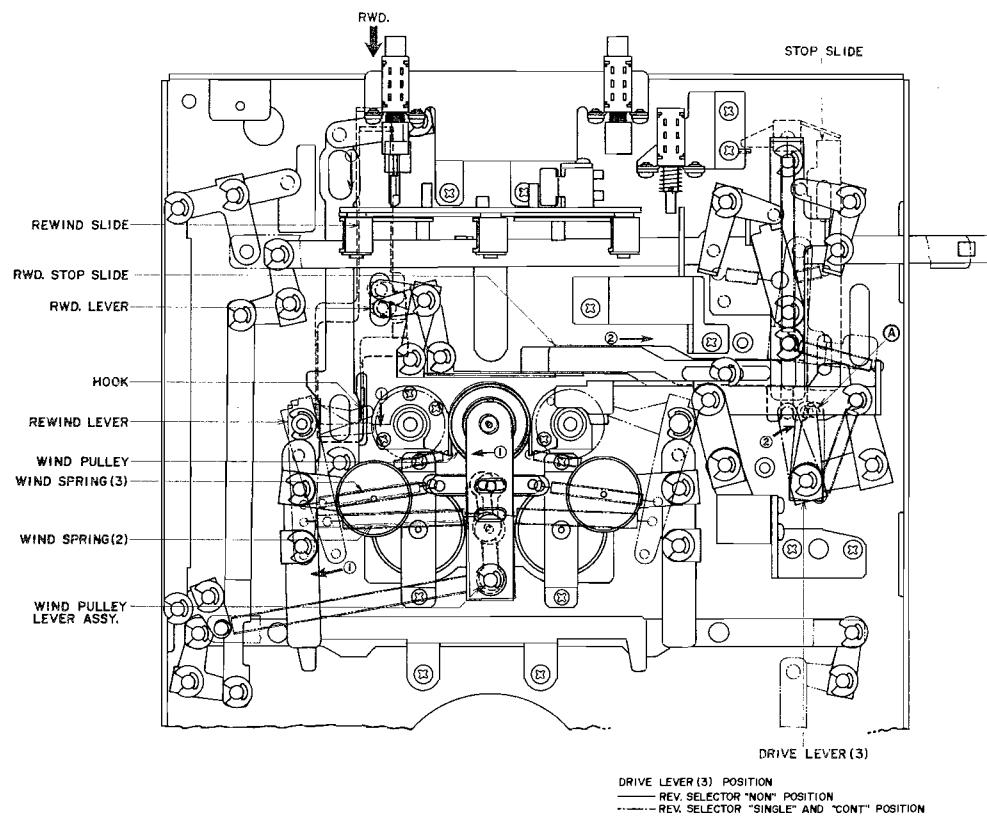

Fig. 35 From STOP to RWD Mode
- REWIND → STOP (Refer to Fig. 35)
- When the Keyboard Block RWD. Button is depressed to rewind the tape, the rewind slide is thrust forward as shown by arrow mark (1) in the figure and at the same time the rewind slide hook depresses the rewind lever. Also at the same time, the wind spring causes the wind pulley to contact the REV flywheel.
- At this time, the Rewind lever pushes the Rewind stop slide to the left as shown by arrow mark (2) in Fig. 35 and drive lever (3) selector pin is stabilized at position A.